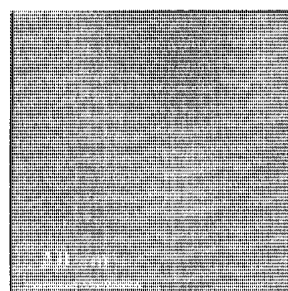

Fig 1. Far field - probe separation is 1.8 microns
Using a TopoMetrix Aurora (TM) NSOM, a small area (5 x 5 microns) was imaged with a probe which had an aperture of approximately 25 nm. When the tip-sample separation is 1.8 microns, providing far-field illumination, the resolution is about 700 nm, (Fig 1).